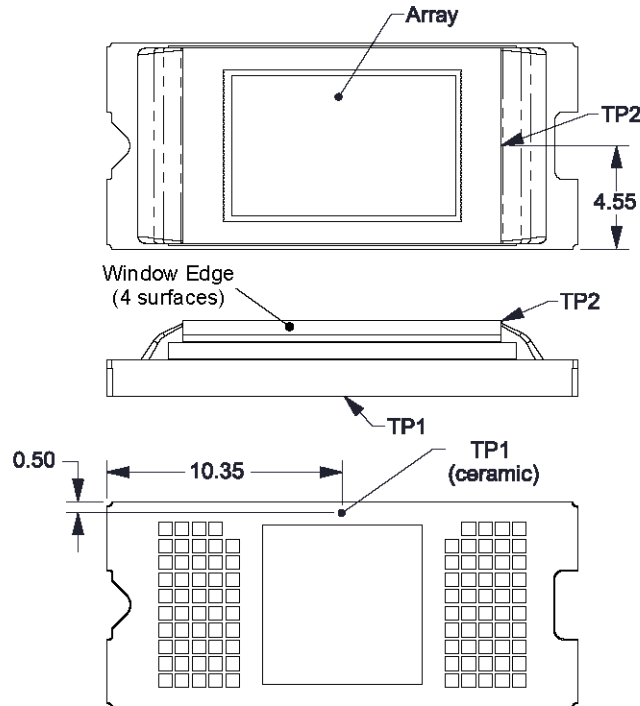

Figure 8. Thermal Test Point Location - FQD Package
The temperature of the DMD case can be measured directly. For consistency, a thermal test point location TP1 representing the case temperature is defined as shown in and Figure 8.
- Thermal test point location (see or Figure 8)